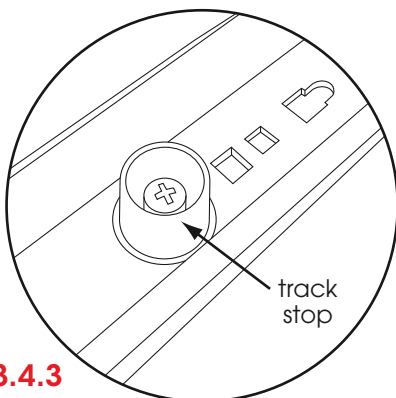

Fig: 3.4.3
- Install the safety stop at the end of the horizontal track as shown in Fig 3.4.3.